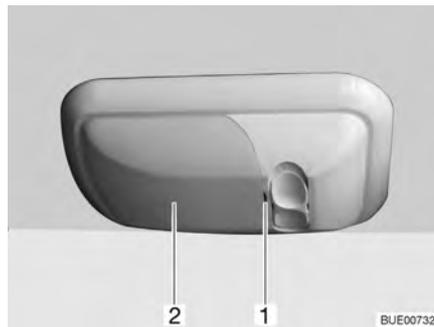

Fig. 208 Garage light
- Use a suitable tool (e.g. a screwdriver) to carefully lever out the cover (Fig. 208,2) at the notch (Fig. 208,1) and remove it.